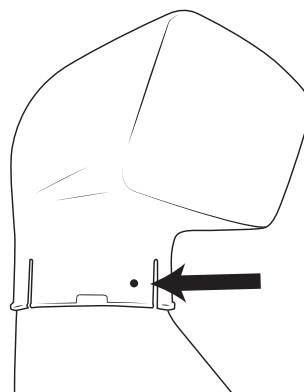

Figure 23
3. Mark the hole location on the Intake body and drill a 5/16" hole (Fig 23).